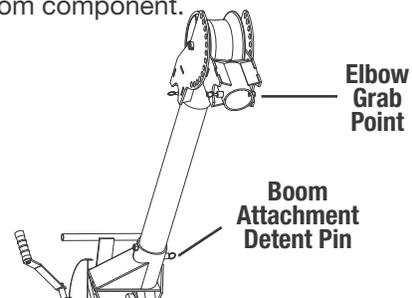

Figure 12: Detent Pin Position on Carriage
10. Assemble in the reverse order, use sight holes to check all boom tubes are fully seated in elbow/nose units (Fig.12). Additionally, confirm boom attachment detent pins are aligned in boom tubes before releasing each boom component.